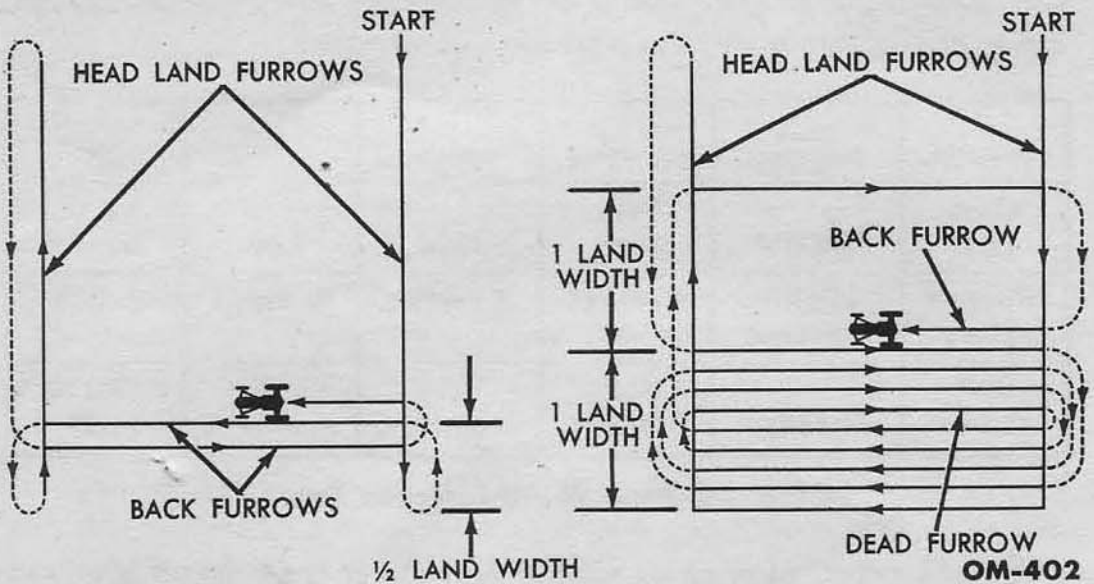

Fig. 77—Two Methods of Opening a Field to be Plowed by Lands
a. Plowing by Lands. Plowing by lands is a method whereby the field is plowed in sections or strips. The following operations are performed when plowing by lands. Fig. 77 shows a procedure for laying out the field.